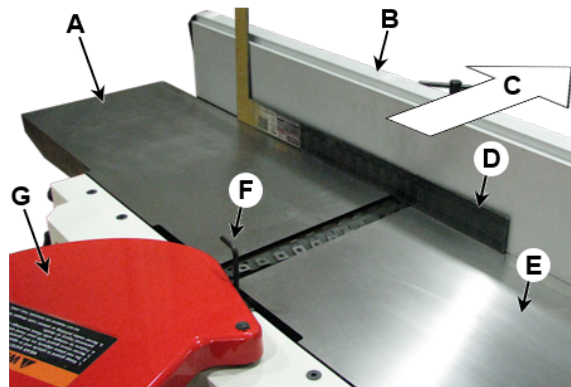

Figure 10
Refer to Figures 10 and 11:
5. Place a *straight edge* (D) across the back of the *outfeed table* (A) and extending over the *infeed table* (E). Note the position of the infeed table. Note the position of the straight edge in Figure 10 with respect to the *fence* (B).
6. Raise the *infeed table* (A) until it contacts the *straight edge* (D).
10. Use the *straight edge* (D, Fig. 10 and 11) upon the tables to check the adjustment until the tables are coplanar.
11. When the adjustment is satisfactory and the tables now coplanar, tighten the *set screw* (C) with the 2.5mm hex wrench.